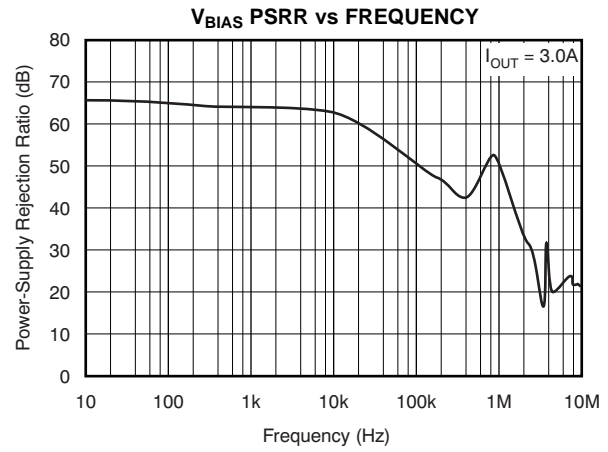
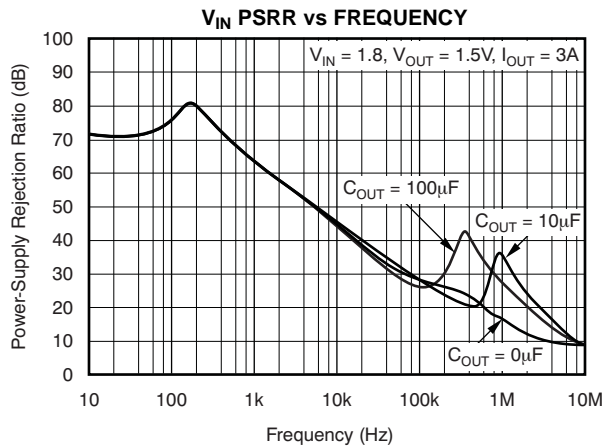

Figure 12.
Figure 15.
- (1) Adjustable devices tested at 0.8V; external resistor tolerance is not taken into account.
(2) Dropout is defined as the voltage from the input to V_{OUT} when V_{OUT} is 2% below nominal.
(3) I_{FB} , I_{SNS} current flow is out of the device.
(4) See Figure 12 to Figure 15 for PSRR at different conditions.